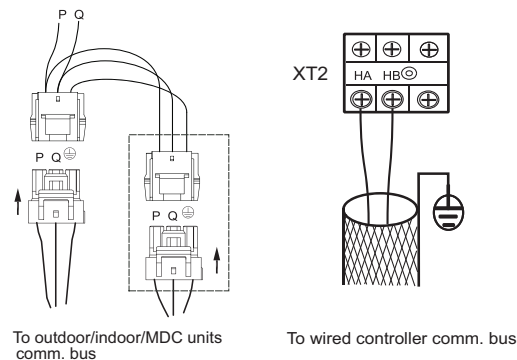

Fig. 21 —Communication Wire Connection
- See Fig. 21 for an example of communication wire connection.